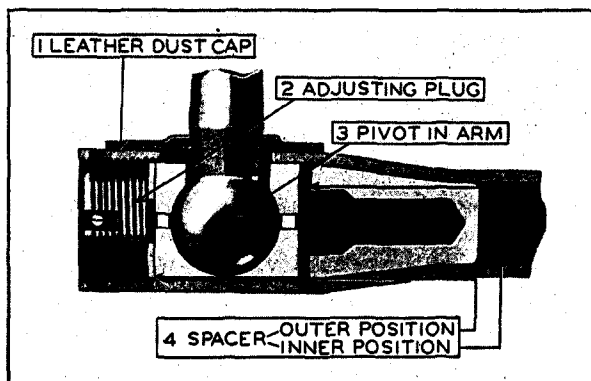

Fig. 102. Sectional View of Ball and Socket Joints at Ends of Parallel Rod
Adjustment of the front wheel alignment is made by shifting the position of one or more of the spacers (Fig. 102). To do this, first remove the cotter pin and plug (2) in the end of the parallel rod. The rod can then be taken off the end of the spindle arm.
To adjust the ball and socket joints, jack up the front axle. Remove the cotter pins (Fig. 102) and screw the adjusting plugs in as far as they will go. By working the front wheels back and forth against each other, make sure that all play in the parallel rod has been taken up. Then back the screw plugs out to the next cotter pin hole.
Disconnect the ends of the rod from the pivots on the steering arms by removing the screw plugs (2, Fig. 102). The spacers and inner plugs will fall out of their own accord.
To assemble and install the parallel rod, reverse the operations under "Removal and Disassembly," placing the seats and spacers as shown in Fig. 102.